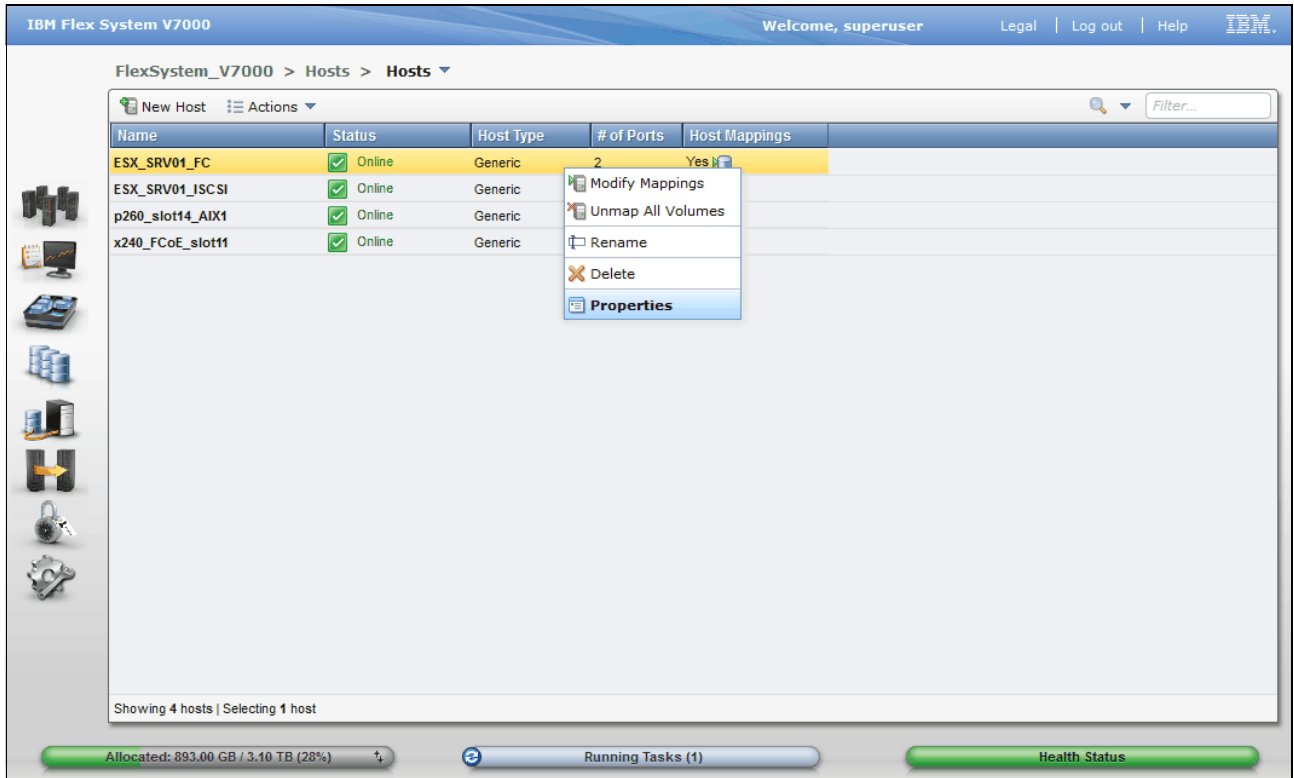

Figure 12-39 Example ESX FC host
1. Right-click your VMware ESX Fibre Channel host in the All Hosts view (Figure 12-39) and select **Properties**.